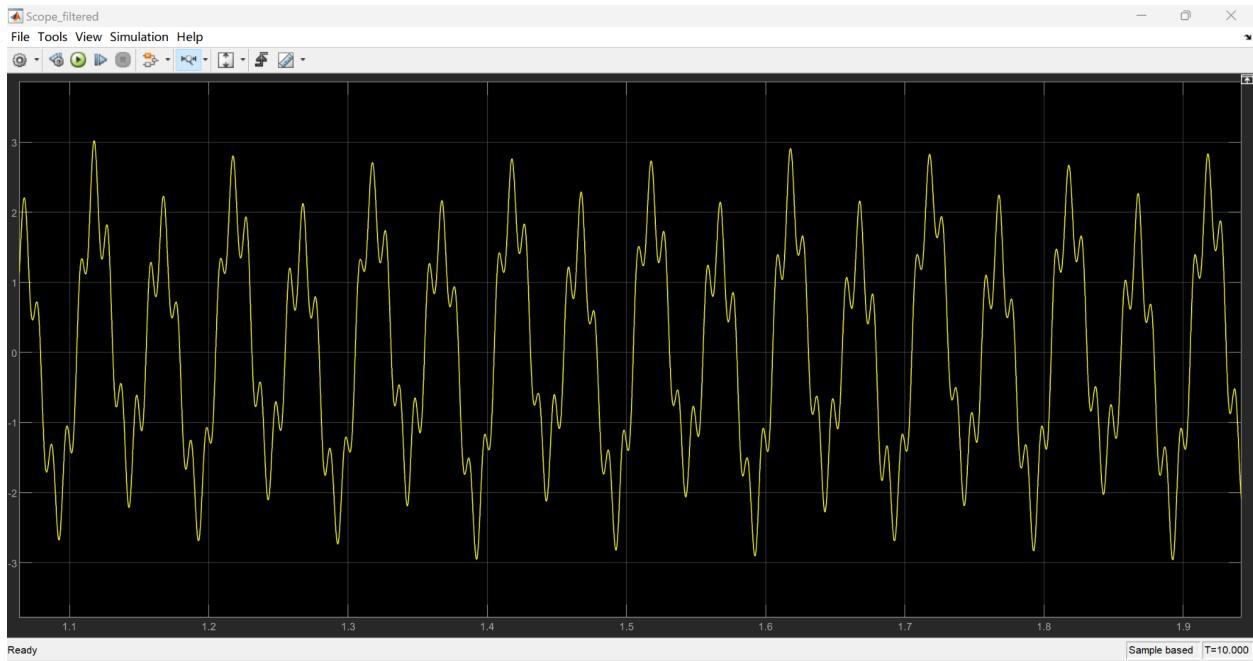

Figure 9. Filtered scope plot with a sum of three sine waves.
- 7) In this part, we set up the model with same parameters as previous part. With a slider gain of 1, we gain the filtered scope plot and filtered spectrum as shown in figure 9 and 10, respectively. The comparison between them and the plots that we get from part 6 will be discussed in Question part.
Answer: Comparing Figure 9 and 10 with 7 and 8, we can see that filtered scope plot is much smoother than scope(Rx), and it is very close to the input source signal. As for the filtered spectrum, it removes most noise in the Rx spectrum and reflects the overall frequency behavior of the source signal. An appropriate filter can greatly help us remove the noise and recover the original signal.